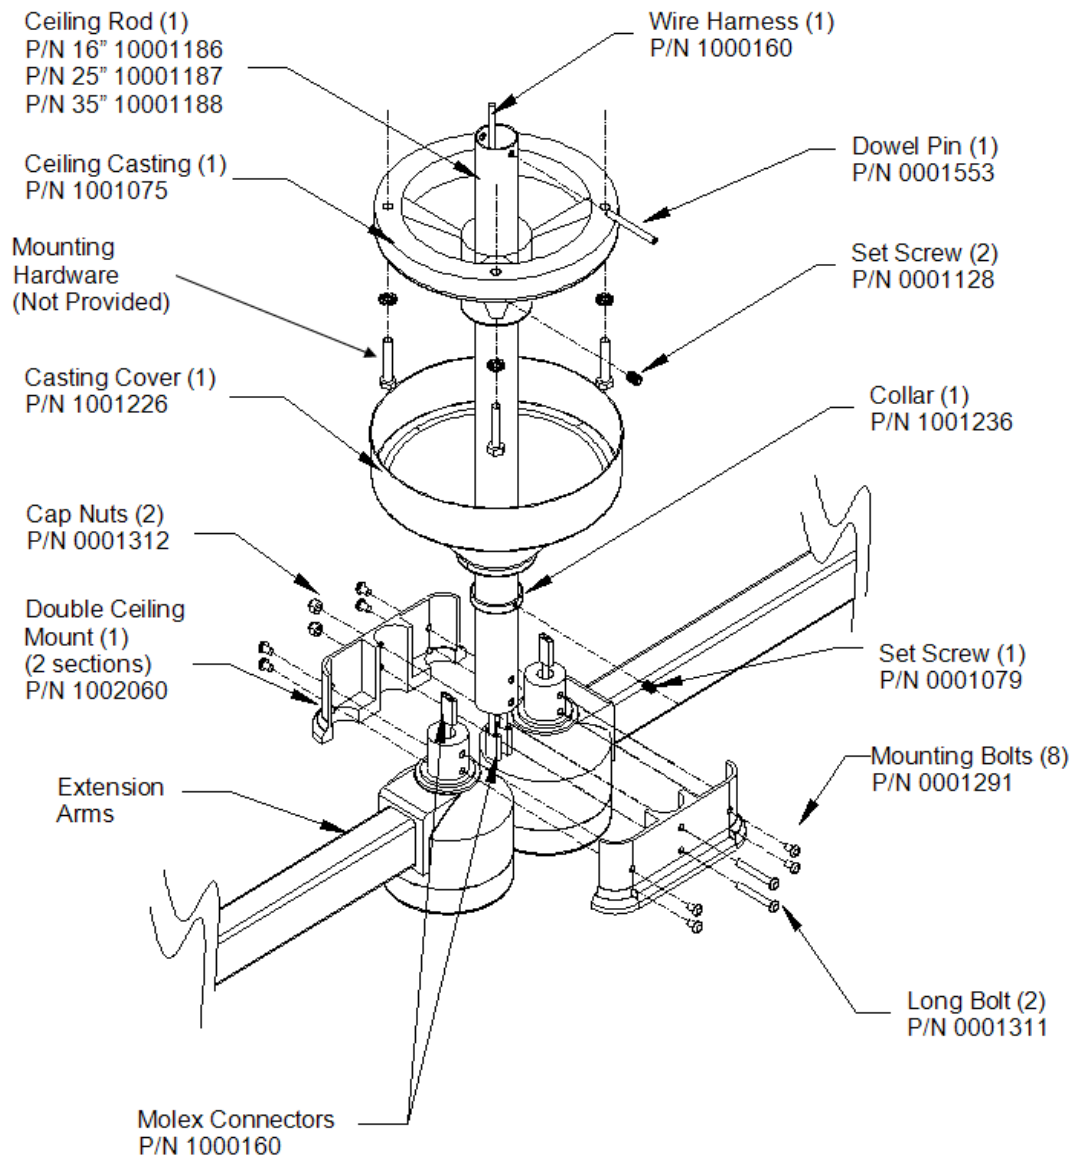

Figure 9. Double Ceiling Mount Installation
- Insert the ceiling rod up through the ceiling casting until the hole in the ceiling rod becomes visible (see Figure 9. Double Ceiling Mount Installation). Insert the dowel pin into the hole in the ceiling rod and lower the rod in the ceiling casting, making sure the pin is seated securely in the indentation on the ceiling casting. Securely tighten the two set-screws located in the casting.
- Position the two extension arms as shown in “Figure 9. Double Ceiling Mount Installation” to allow for easier mounting of the remaining double mount section. Firmly press the fastened double ceiling mount section against the ceiling rod. While firmly holding the double ceiling mount section with arms attached in place, remove only the cap nuts from the 2” long bolts. It is strongly recommended that a second person hold the arms in place while the nuts are removed. Place the remaining double ceiling mount section onto the bolts. Be sure the wires are enclosed within the wire channel to avoid pinching them. Replace the cap nuts and fully tighten. Install the remaining four $\frac{3}{8}$ ” long mounting screws and then fully tighten all eight screws.